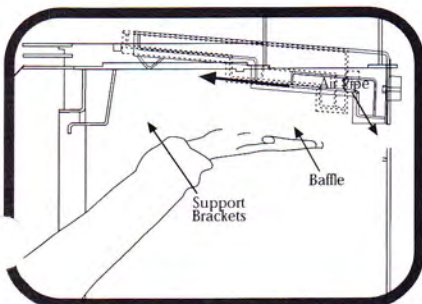
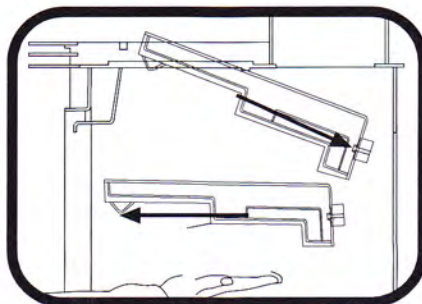

Fig. 8
Fig. 9
- 4) Once the bolts are loose, slide the baffle down as indicated in figure 8. Carefully, angle the baffle on one side to make sure it doesn't accidentally fall, as this may result in serious injury (fig. 9)